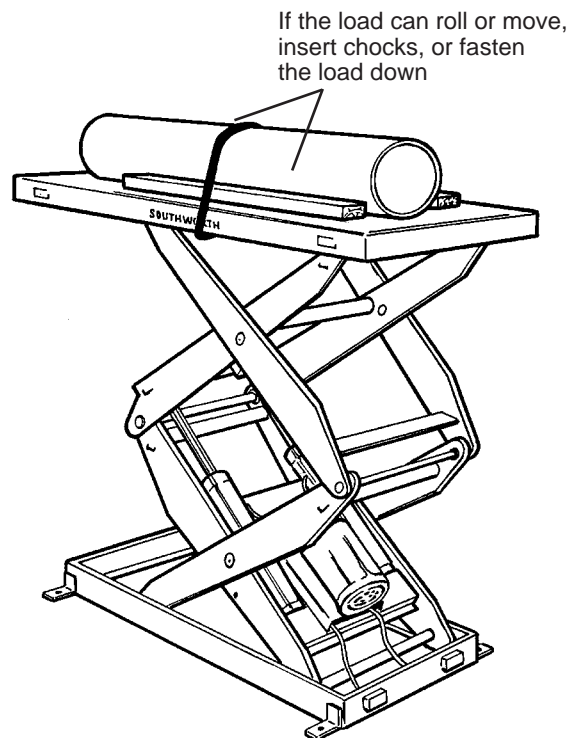

Fig. 5 – Secure the Load
- If you are lifting pipes or other objects which may be able to roll or move, fasten them down, or chock them as shown in Fig. 5.